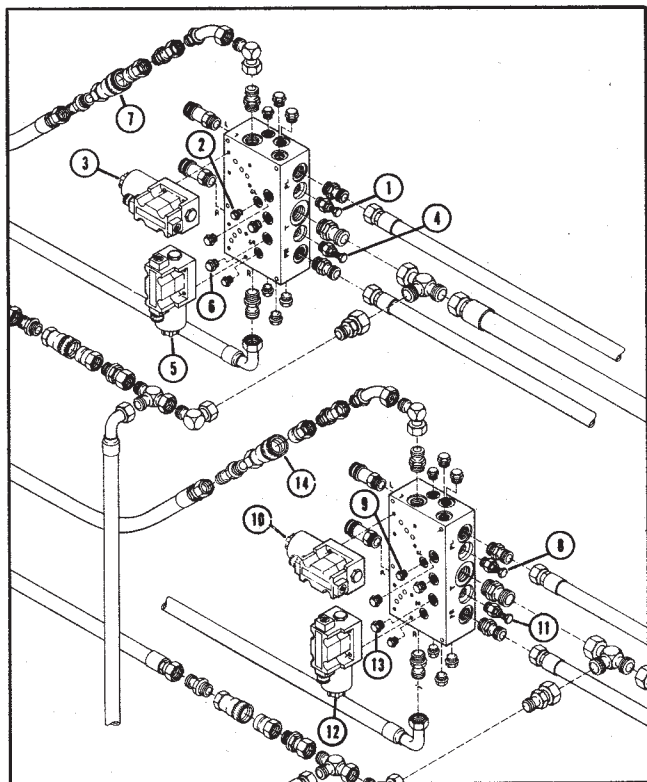

Figure 23. Side Valve Plate Integrated Circuit
1. Left Hopper Spread Roll Relief Valve (Figure 23)
- a) With engine off remove plug (2) and install a 3000 psi gage with necessary adapters to hook to a 1/4 SAE o ring port (04MB). Disconnect quick coupler (7).
- c) Use the manual override to actuate the valve (Ref. 3, Fig. 23).
- d) Adjust this relief valve (Fig 23, Ref 1) to a setting of 2000 psi.
2. Right Hopper Spread Roll Relief Valve (Figure 23)
- a) With engine off remove plug (6) and install a 3000 psi gage with necessary adapters to hook to a 1/4 SAE o ring port (04MB). Disconnect the 2nd from the bottom quick coupler on the right side of the chipspreader.
- c) Use the manual override to actuate the valve (Ref. 5, Fig. 23).
- d) Adjust this relief valve (Fig 23, Ref 4) to a setting of 2000 psi.
3. Left Auger Relief Valve (Figure 23)
- a) With engine off remove plug (9) and install a 3000 psi gage with necessary adapters to hook to a 1/4 SAE o ring port (04MB). Disconnect quick coupler (14).
- c) Use the manual override to actuate the valve (Ref. 10, Fig. 23).
- d) Adjust this relief valve (Fig 23, Ref 8) to a setting of 2000 psi.
4. Right Auger Relief Valve. (Figure 23)
- a) With engine off remove plug (13) and install a 3000 psi gage with necessary adapters to hook to a 1/4 SAE o ring port (04MB). Disconnect the top quick coupler on the right side of the chipspreader.
- c) Use the manual override to actuate the valve (Ref. 12, Fig. 23).
- d) Adjust this relief valve (Fig 23, Ref 11) to a setting of 2000 psi.